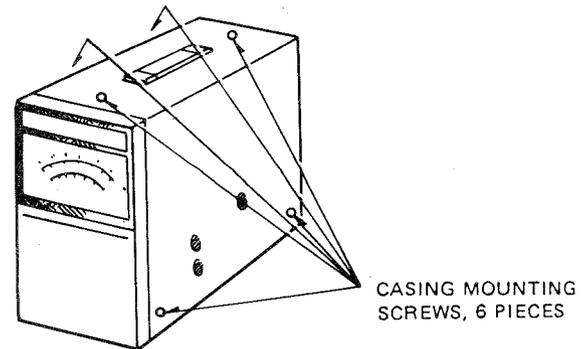

Figure 7- Casing Removal.
### (1) Removing the casing (see Figure 7)